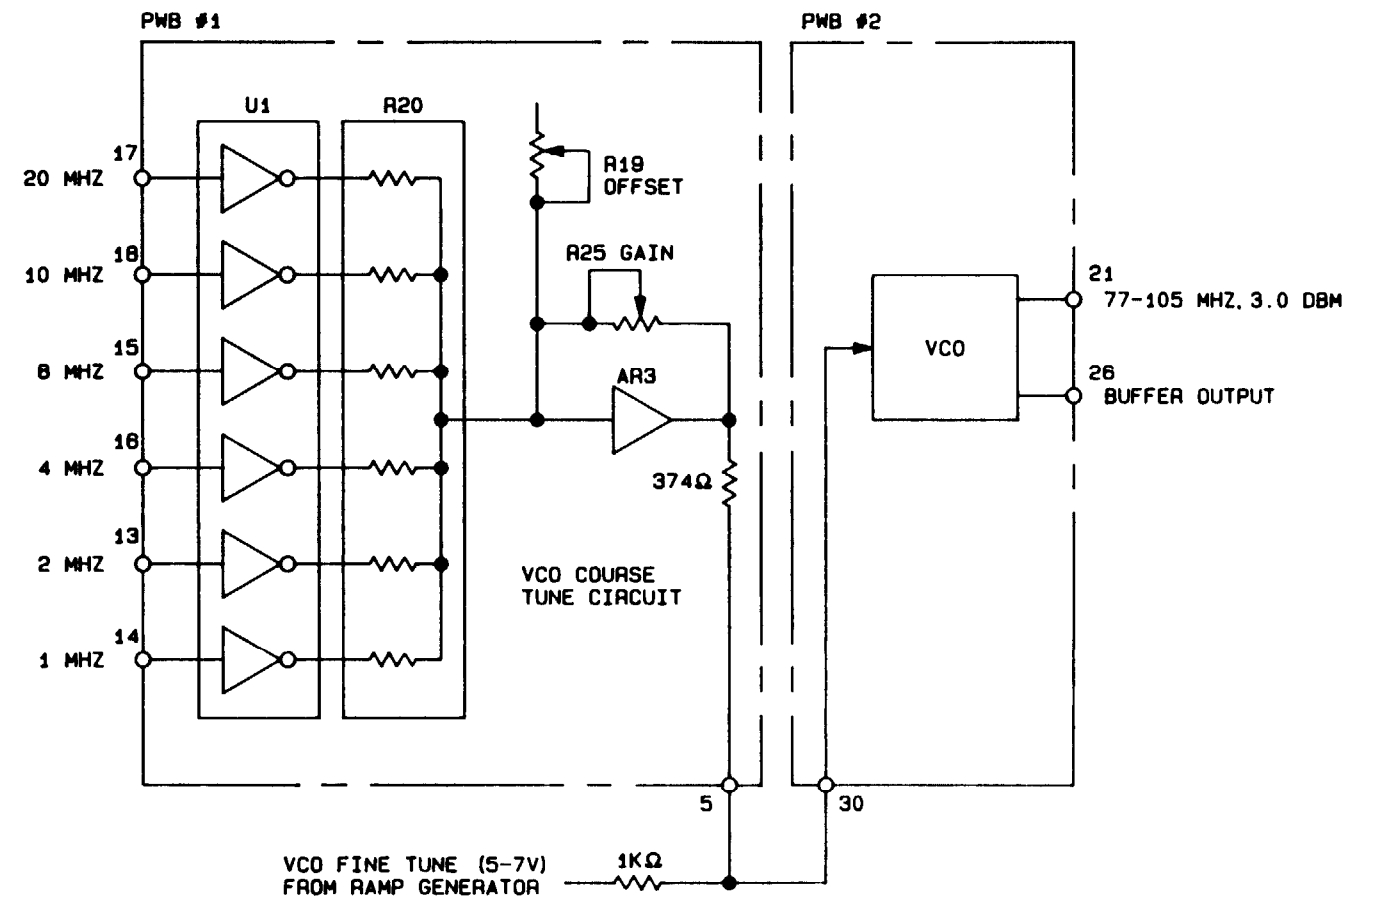

Figure 2-11. 75-105 MHz Voltage-Controlled Oscillator (VCO)
**77-105 MHz VOLTAGE-CONTROLLED OSCILLATOR (VCO), fig 2-11**